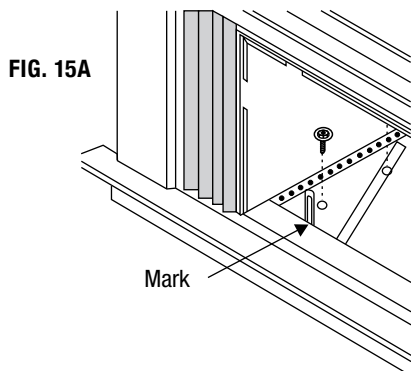

FIG. 15A
1. Hold each support bracket flush against outside of sill and tighten to bottom of cabinet as shown in Fig. 15A. Mark brackets at top level of sill, and remove.